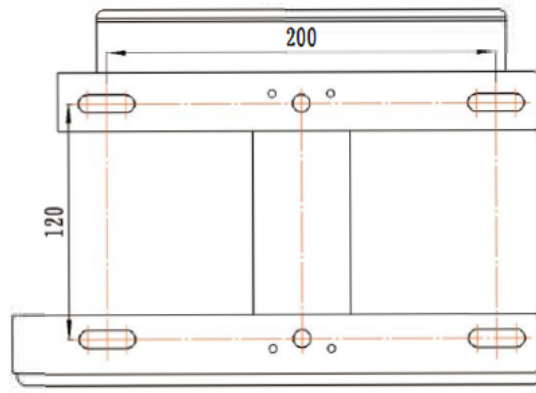

Figure 3-2 Installation Size
- Mark the drilling position on the wall according to the specifications of the fixing plate in Figure 3-2, and then drill at the marked position. A circular hole with a diameter of 10mm and a depth of 35mm.